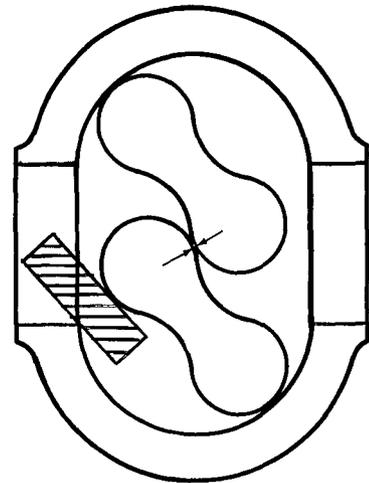
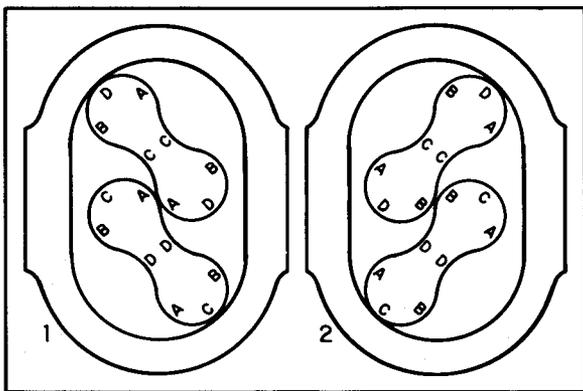

FIGURE 28
FIGURE 30
- (3b) If new gears are used, align rotors parallel to each other in approximately the ten o'clock-four o'clock position as viewed from the gear end. Place 1/2" to 1" thick block between idler rotor lobe and lower edge of air inlet-outlet on left side as viewed from gear end (see Fig. 28). Place drive gear (47) on shaft aligning wide land in gear spline with missing tooth on shaft spline. Carefully rotate drive gear and rotor counterclockwise
- (4) The two drive end snap rings (26) temporarily removed on page 14 should now be replaced.
- (5) Drive gear onto shaft by turning flexlock nut. When the inner faces of gears are aligned, check rotor-to-rotor clearance at arrows in Fig. 28. If clearance is greater than .016" continue turning nut until .016" is obtained. Rotors should then turn freely.
- (6) If tightening drive gear lock nut does not free rotors, the gears have been improperly meshed. Remove drive gear, fit a new Belleville spring, and repeat gear indexing procedure (Item 3b above).
- (7) Before making final timing adjustments, torque idler gear lock nut to 300 ft-lb [42 mkg].
- (8) When rotors turn freely, it is still necessary to adjust rotor clearances to be equal on both sides. Refer to diagram in Fig. 30. Use feeler gages placed between the rotor lobes at position A-A and B-B to check clearance. Adjust clearance by tightening flexlock nut on drive rotor shaft. One-sixth of a turn of the nut will change the clearance by .005 in. [.13 mm]. Adjust so that clearance at A-A is equal to B-B within + .001 in. [.025 mm]. Clearance must be checked on both sides of each rotor lobe near each end.